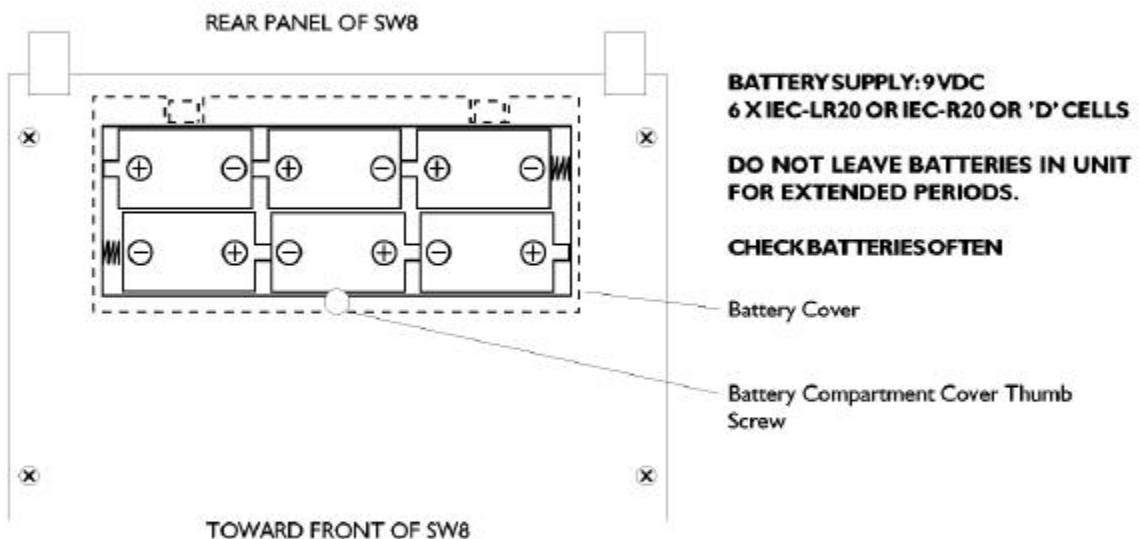

FIGURE 1 - BATTERY COVER REMOVAL AND INSTALLATION
For use in a portable environment, the SW8 is operated from six (6) internally mounted "D" cell batteries. These batteries are not supplied and must be installed prior to portable operation of the SW8. See Figure 1 in the 'BATTERY INSTALLATION' section of this manual. For longest battery life, alkaline batteries are recommended for this product.